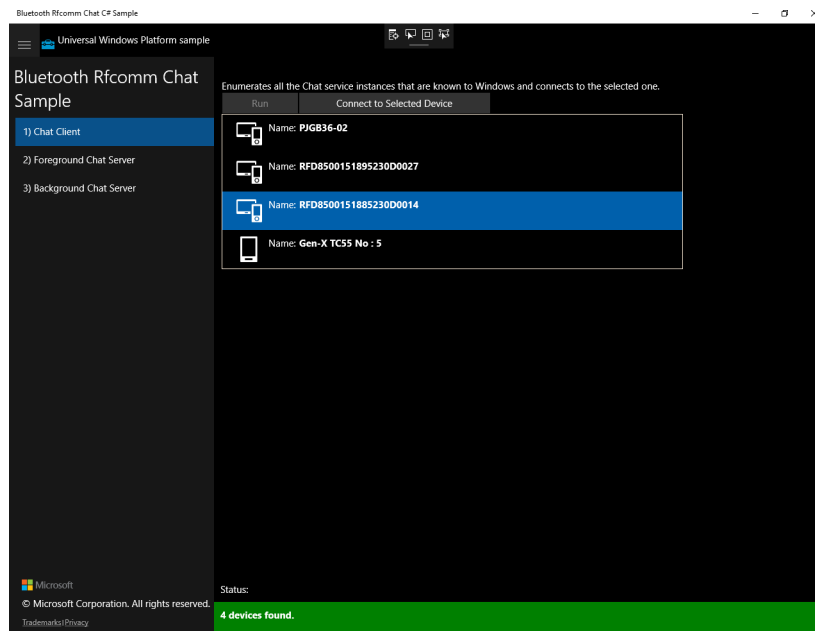

Figure 6-5 Run the Application
7. Send the ZETI command in a **Chat** window (Figure 6-5) and receive a response from the RFD8500 reader.